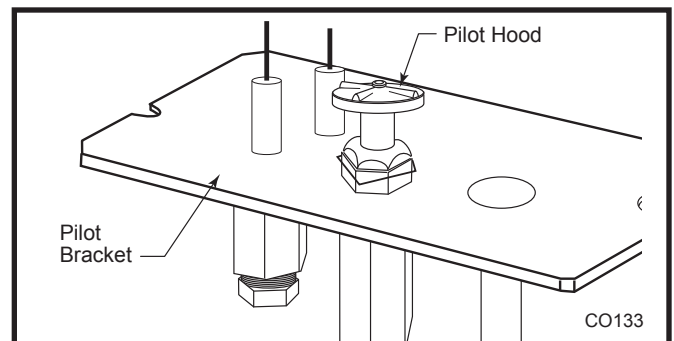

Fig. 56 Remove pilot hood.
1. Remove pilot hood by lifting up. (Fig. 56) **NOTE:** It is not necessary to remove the pilot tube for conversion.